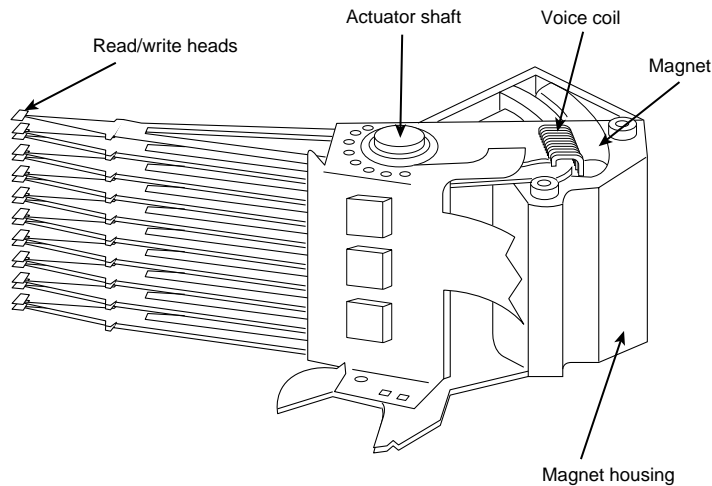

FIG. 14.4 Read/write heads and rotary voice coil actuator assembly.
Figure 14.4 shows a typical hard disk head-actuator assembly from a voice coil drive.
*Rotary actuators* (refer to Figure 14.4) also use stationary magnets and a movable coil, but the coil is attached to the end of an actuator arm, much like that of a turntable's tone arm. As the coil is forced to move relative to the stationary magnet, it swings the head arms in and out over the surface of the disk. The primary advantage of this mechanism is light weight, which means that the heads can be accelerated and decelerated very quickly, resulting in very fast average seek times. Because of the lever effect on the head arm, the heads move faster than the actuator, which also helps to improve access times.